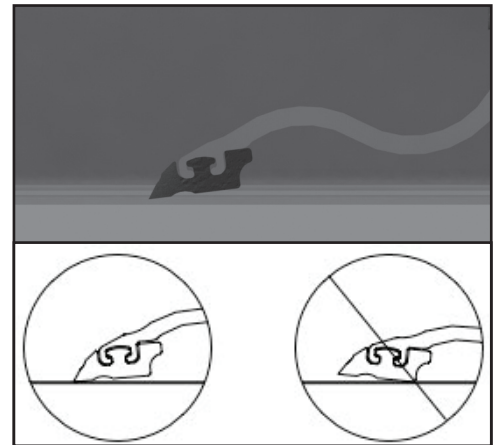

Fig 1: DualClip foot; toe engages panel before heel
1. Ensure that the correct DualClip is being used (DualClip II or DualClip III) by checking that the rubber "foot" is resting properly on the panel surface when the DualClip is placed on the upper pipe. When applying downward pressure on the part, the toe should engage the surface of the panel just before the heel (Fig 1).